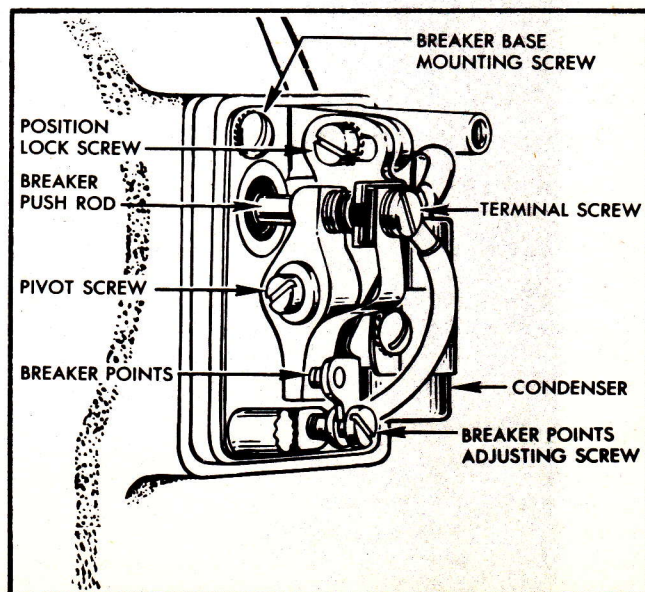

Figure No. 11
- a. Loosen the lock screw (See Figure No. 11).